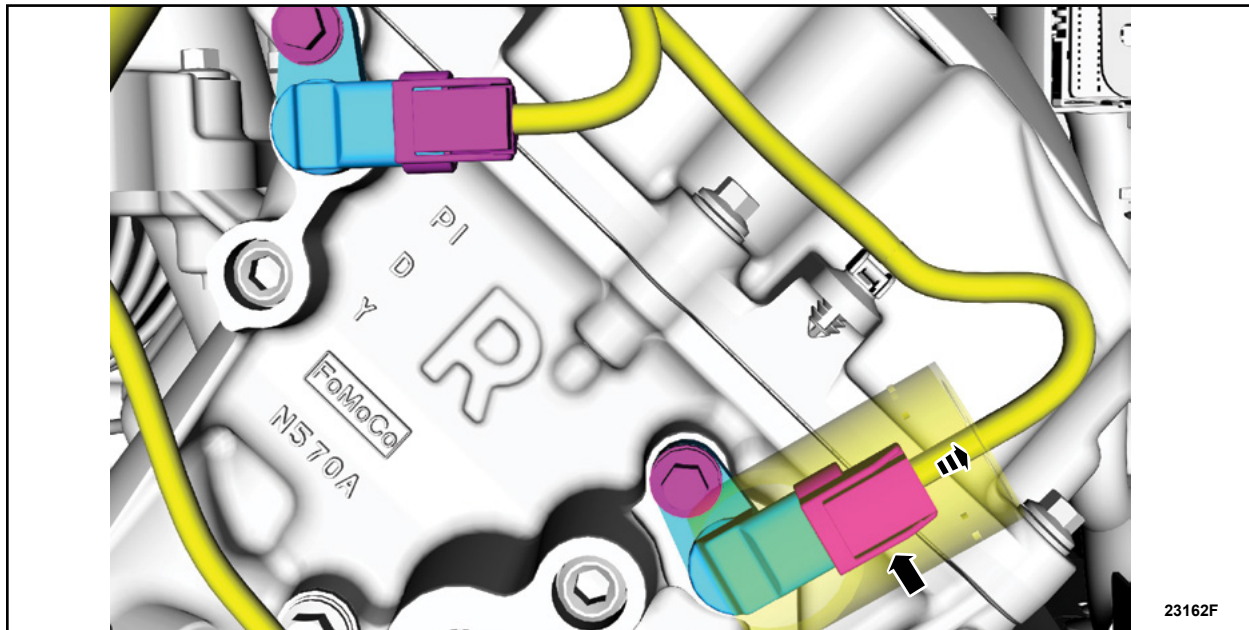

FIGURE 11
3. Remove the right hand (RH) heat shield and disconnect the exhaust camshaft position sensor electrical connector. See Figure 11.